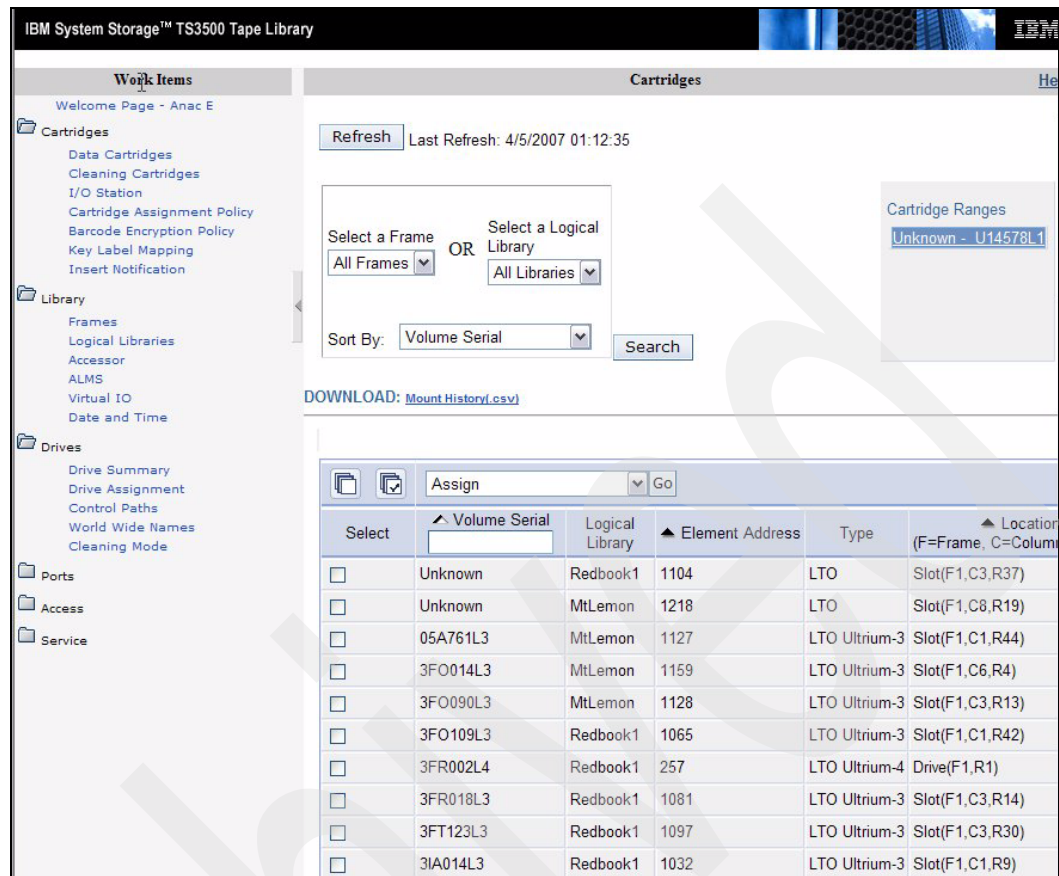

Figure 2-56 Assign Data Cartridge menu
- To begin, navigate **Cartridges** → **Data Cartridges** (see Figure 2-56). Select the frame or logical library, select one or more cartridges to assign, and select **Assign** in pull-down, and click **Go**.